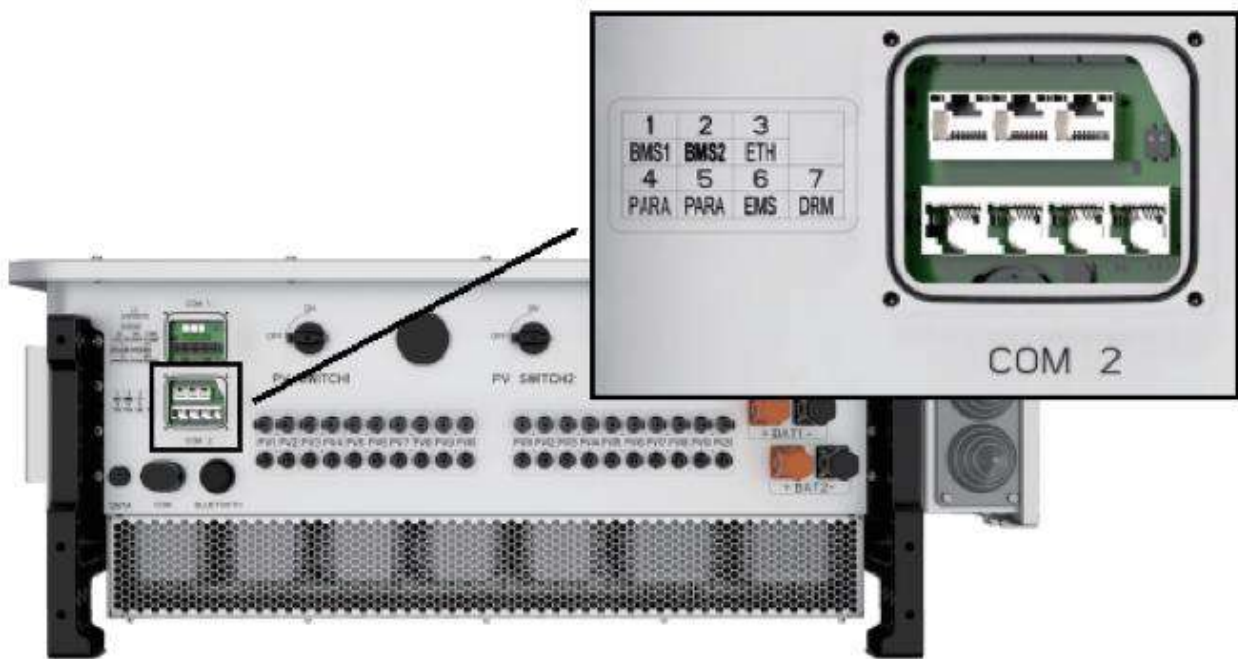

Figure 5-14 Communication Cable Connection Diagram
1. The communication cable from the hybrid inverter to the battery cabinet. Connecting the one CAN cables reserved in the integrated cabinet according to Figure 5-14. Connect the end with the RJ45 to the communication interface of the hybrid inverter. The following is the interface definition.